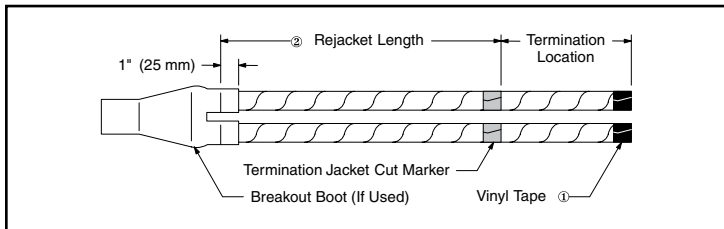

Figure 1
1. Secure copper tape shield ends with vinyl tape (①, *Figure 1*).
2. Determine required length of cable shielding to be rejacketed (Typical ②, *Figure 1*).